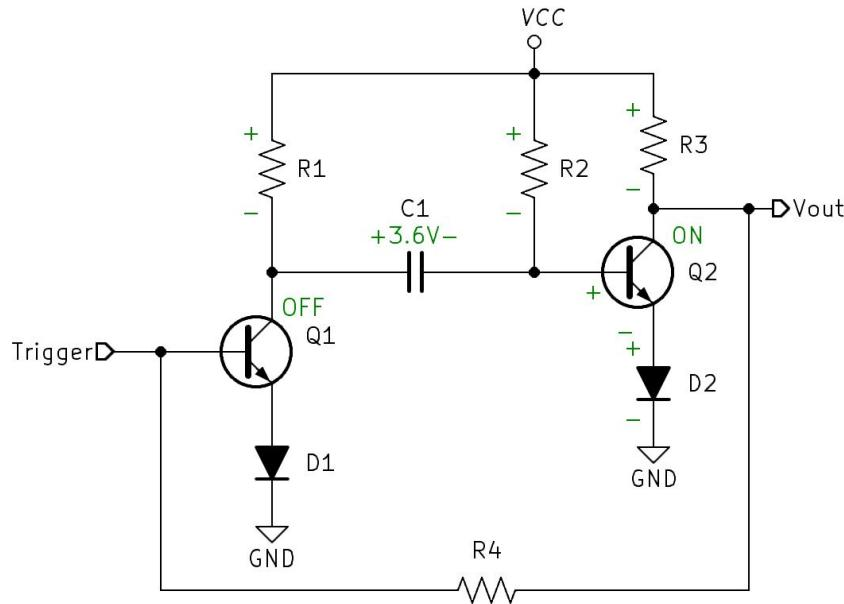

Figure 10.5: Bipolar Junction Transistor Monostable Multivibrator Stable State
- Stable State** Observe Figure 10.5. Q2 will immediately turn on due to the unrestricted base resistor R2. The current path for Q1 to turn on goes through R3 and R4. This means Q2 will turn on faster than Q1 and once Q1 is on it will take away VCC leaving only the 0.7 volts of D2 which will not be enough to bias on both Q1 and D1. This is the happy or stable state of the monostable and Vout is low.